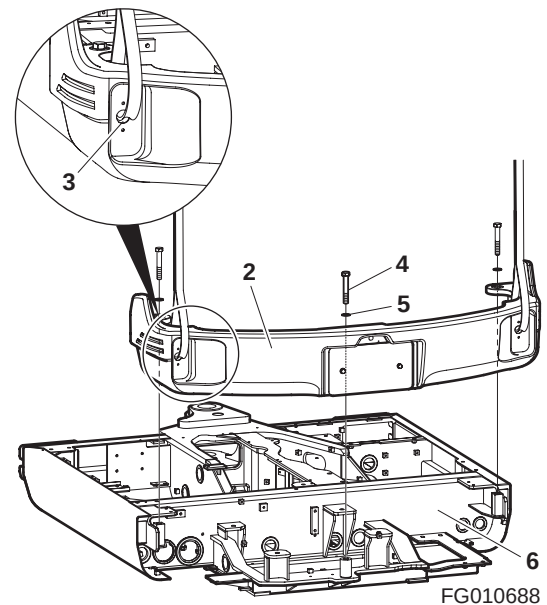

Figure 7
1. Using suitable lifting device capable of handling a heavy load, raise counterweight (2, Figure 7) into position just above support frame (6) leaving counterweight suspended. Verify that counterweight is level and even.
NOTE: Leave counterweight (2, Figure 7) suspended 3 mm (0.12") above support frame (6) until all three mounting bolts (4) are started in counterweight mounting holes.
2. Slide washers (5, Figure 7) onto bolts (4). Apply Loctite #262 to mounting bolt threads.
3. Install *three* bolts (4, Figure 7) with washers (5) into counterweight until washers contact support frame. Fully lower counterweight onto support frame and finish tightening bolts.
NOTE: Torque bolts (4, Figure 7) to values shown in following table.
4. Remove lifting device from counterweight holes (3, Figure 7).